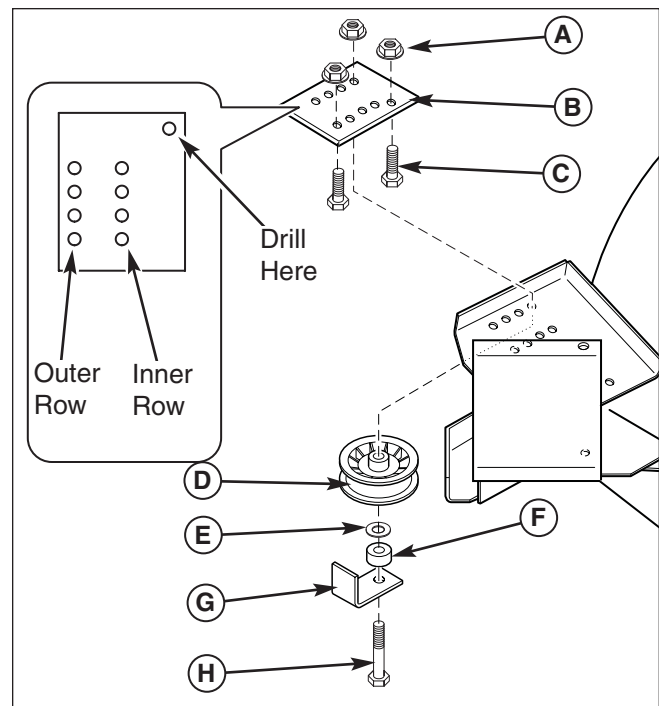
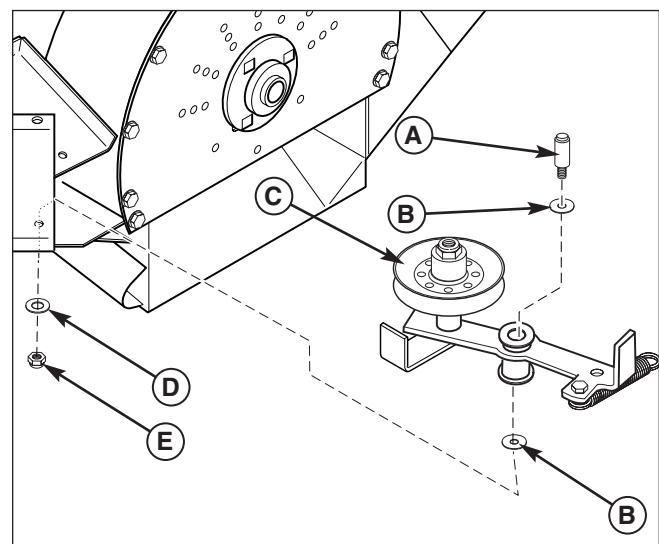

Figure 7. Installing the New Support Plate
Figure 8. Updating the Idler Arm Assembly
8. Loosen the 3/8-16 hex serrated flange nut (A, Figure 7) that secures the adjustable idler pulley (D) to the blower assembly. Remove the 3/8-16 hex serrated flange nut (A), and all the components the nut secured. Discard the 3/8-16 X 2" bolt.
9. Place the support plate (B) on the blower assembly. Line up the two rows of holes in the support plate with the two rows of holes on the blower assembly.
10. Refer to figure 7. Place a 3/8-16 X 3/4 Bolt (C) up through the blower assembly in the front most hole of the inner row, through the support plate (B) and secure with a 3/8-16 hex serrated flange nut (A).
11. Reassemble the adjustable idler pulley components as shown in Figure 7. Install the 3/8-16 X 2-1/2" bolt (H) up through the belt keep (G) which should be positioned with the tab facing up, through the .39 X .75 X .38 spacer (F), through the 3/8 SAE washer (E), through the adjustable idler pulley (D), which should be positioned with the hub facing up, then through the blower assembly, then through the support plate (B) and secure with a 3/8-16 hex serrated flange nut (A).
12. Using a 3/8" drill bit, drill a 3/8" hole through the blower assembly using the left rear hole (see Figure 7) as a guide.
13. Install a 3/8-16 X 3/4 bolt (C) up through the blower assembly in the newly drilled hole, through the support plate (B) and secure with a 3/8-16 hex serrated flange nut (A).
14. Reinstall the idler arm assembly to the blower assembly as shown in Figure 8. Install the idler stud (A, Figure 8) down through a 9/16 narrow flat washer (B) then down through the idler arm assembly (C), then down through another 9/16 narrow flat washer (B), then down through the blower assembly, then down through the 3/8 lock washer (D), and secure with the 3/8-24 hex nut (E).